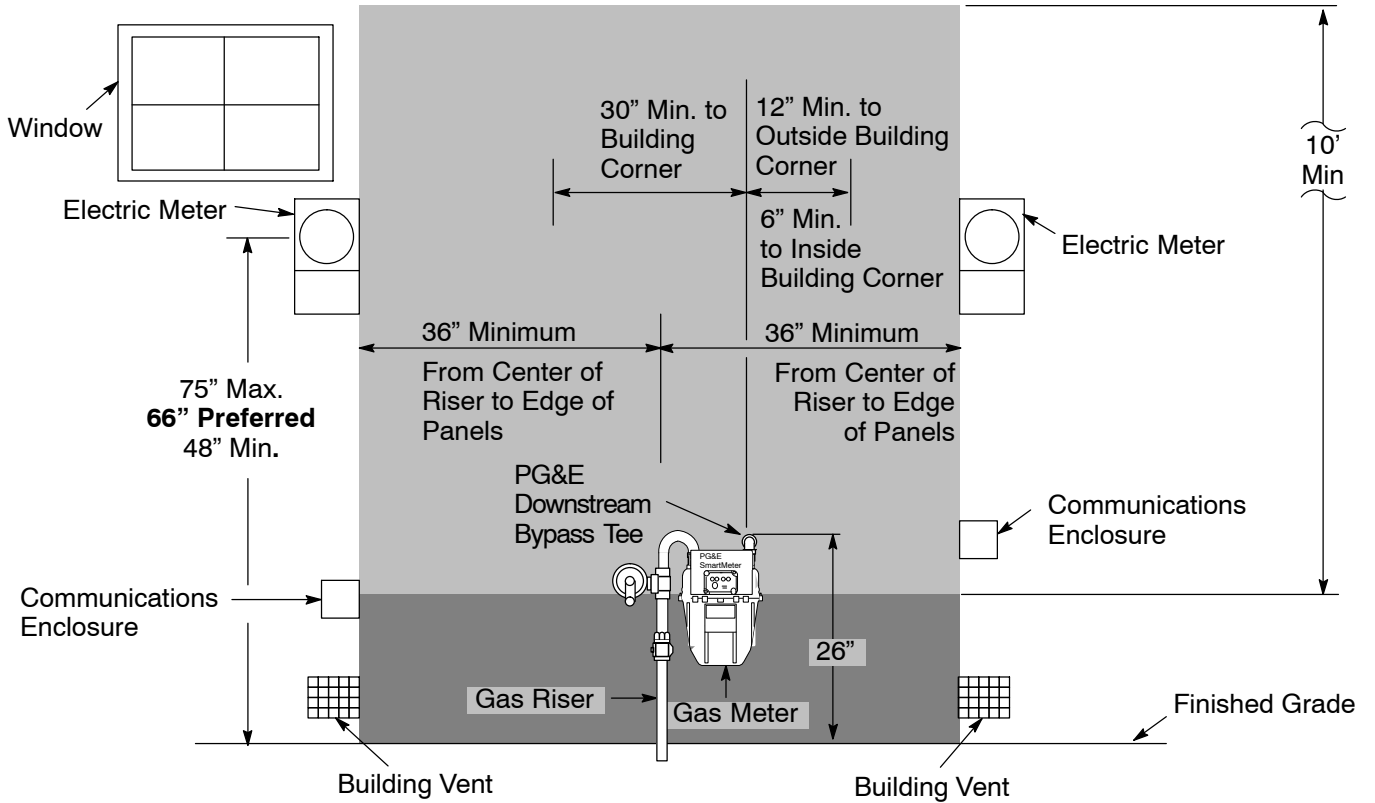

Figure 3
- (a) The regulator vent must not terminate near any sources of ignition or openings into the building. The riser must be a minimum distance of 36 inches from sources of ignition and openings into the building, and this clearance area will extend 10 feet above and 36 inches below the regulator vent termination. (Figure 3) For a large meter set or multi-meter manifold this clearance requirement will extend 12 inches beyond the farthest Company meter set equipment, 10 feet above the highest regulator vent, and 36 inches below the lowest regulator vent.
To provide required working space around an electric meter, the gas service riser may not be located less than 36 inches laterally from the closest edge of the electric meter panel, extending from a point 9 inches above the center of the electric meter to the finish grade. (Figure 3) For a large gas meter set or multi-meter manifold this clearance requirement will extend 12 inches laterally beyond the farthest Company gas meter set equipment.